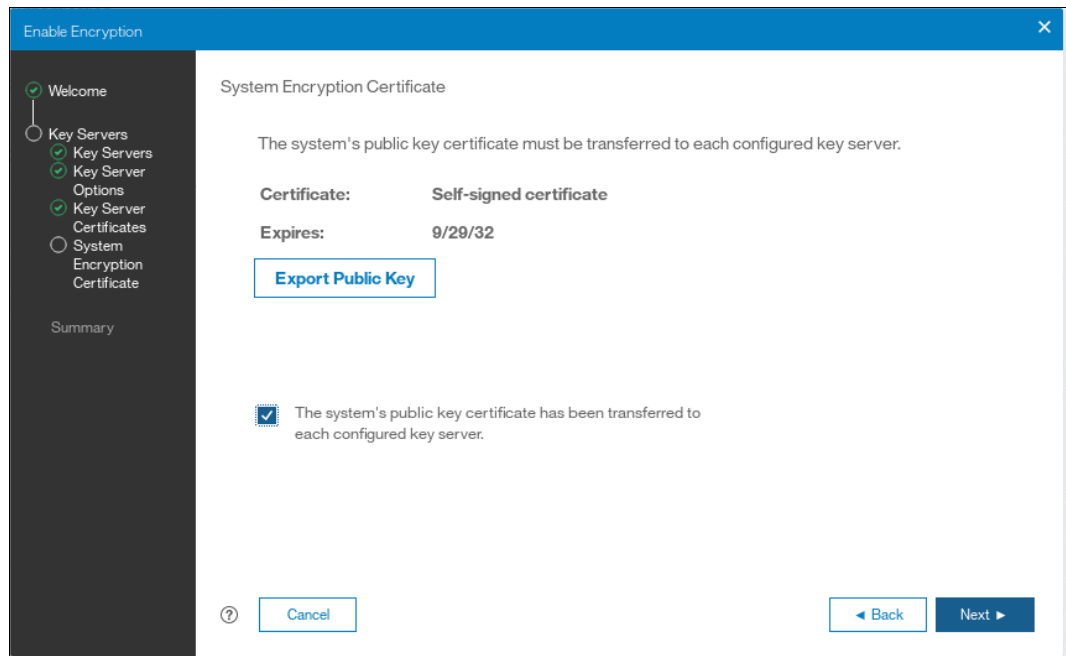

Figure 13-36 Acknowledge Spectrum Virtualize SSL certificate transfer
8. When the Spectrum Virtualize system SSL certificate has been installed on the SKLM key server, acknowledge this by selecting the box indicated in Figure 13-36 and click **Next** to proceed to the next step.